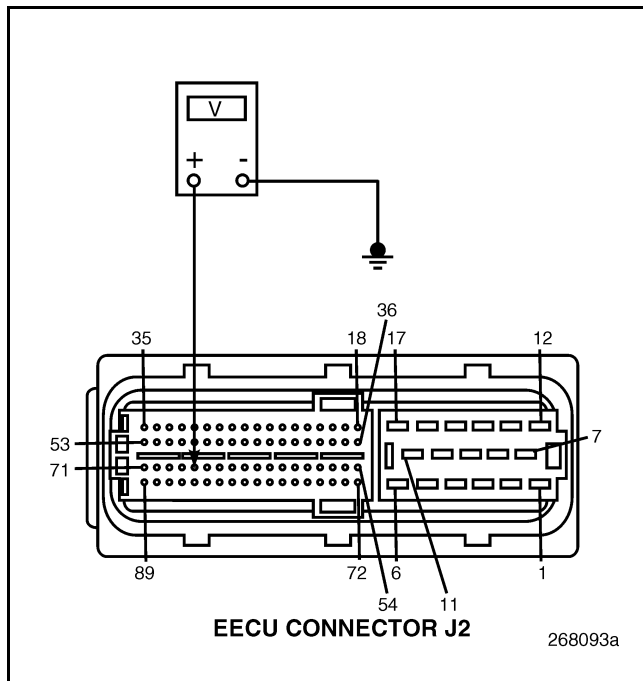

Figure 802
5. Measure the voltage between EECU connector J2 pin 67 and a good ground (see Figure 802).